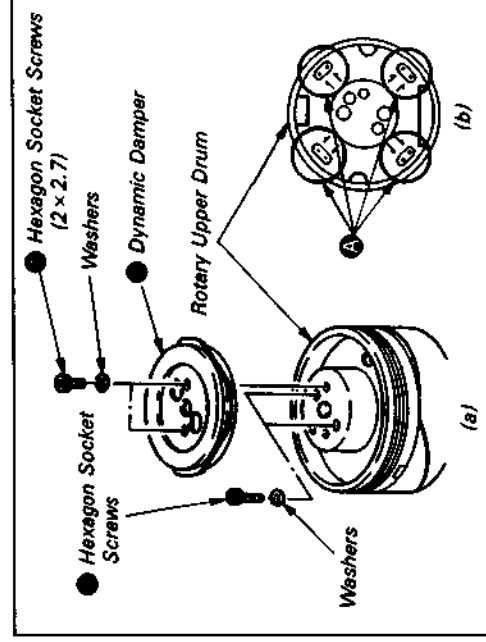

Fig. 7-45.
- 1) Remove two hexagon socket screws (2 x 2.7) ● and dismount the dynamic damper ●. (See Fig. 7-45.)
- 2) Suction solder at all of the soldered eight positions ④. Check that the printed wiring board and pins jutting out from below freely move using tweezers, or other tool. (See Fig. 7-45.)
- 3) Remove the two hexagon socket screws (2 x 5) ●. (See Fig. 7-45.)
- 3) Remove Jig ⑤, lightly push the rotary upper drum by hands. If the rotary upper drum does not go in to the bottom, alternately tighten the two hexagon socket screws (2 x 5) ● by hand and fix them temporarily. (See Fig. 7-45, 7-48.)
- 4) Reinsert the Jig ⑤ in the positioning hole ① and check that the jig can be inserted smoothly. (When the jig cannot be inserted, loosen the two hexagon socket screws (2 x 5) ● and slide it inserting a clock screw-driver in the hole.)
- 6) Solder the eight positions ④. (See Fig. 7-45.) **Note:** Be careful not to flow solder below the printed wiring board.
- 7) Tighten the two hexagon socket screws (2 x 2.7) ● reversing the screw removal procedure and remount the dynamic damper ●. (See Fig. 7-45.) **Note:** Be careful not to tighten too strongly.